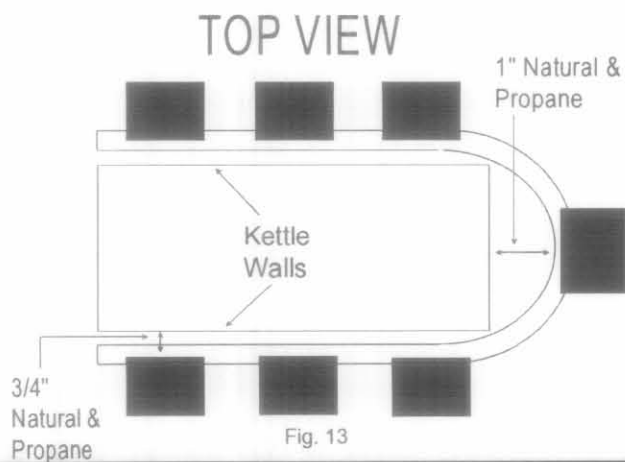

Fig. 13
- 1) Proper alignment of all burner targets should be 3/4 in. between the top edge of the ceramic targets and the wall of the frypot. See Figure 13